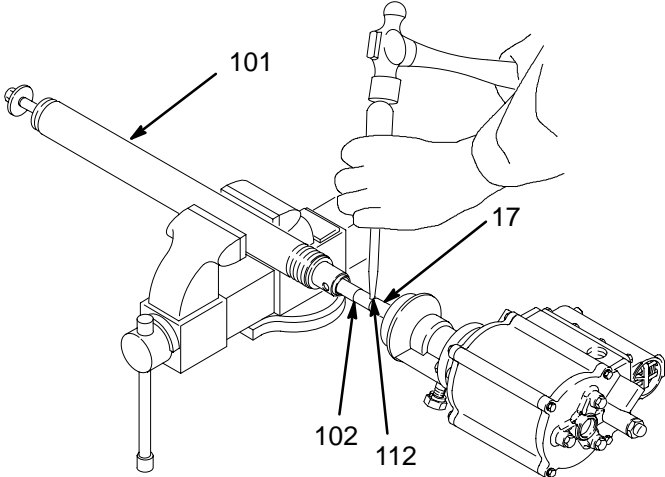

Fig. 7
5. Continue to screw the motor (1) off the cylinder (101) by hand, until the pin (112) joining the displacement rod (17) with the connecting rod (102) is accessible. Use a punch to drive the pin (112) out of the rods (17 and 102) See Fig. 7.
2. Install the pin (112*) in the hole to secure the two rods (17 and 102) together. Make sure the pin is flush or below the surface of the rod (17). Screw the motor (1) onto the cylinder (101) by hand. See Fig. 7.